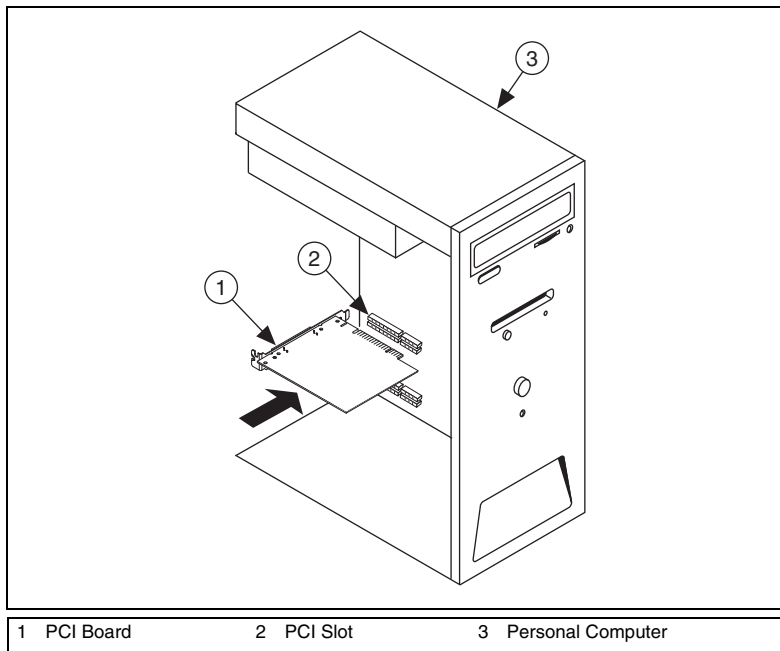

Figure 1. Installing the NI PCI-GPIB and NI PCIe-GPIB (NI PCI-GPIB Shown)
7. Insert the GPIB board into the slot with the GPIB connector sticking out of the opening on the back panel, as shown in Figure 1. It might be a tight fit, but do *not* force the board into place.